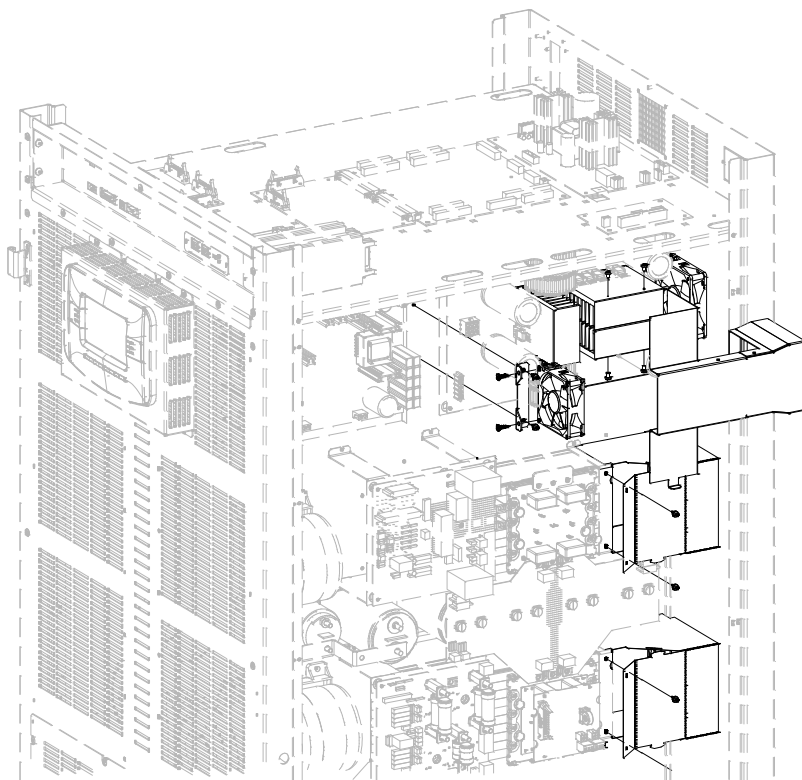
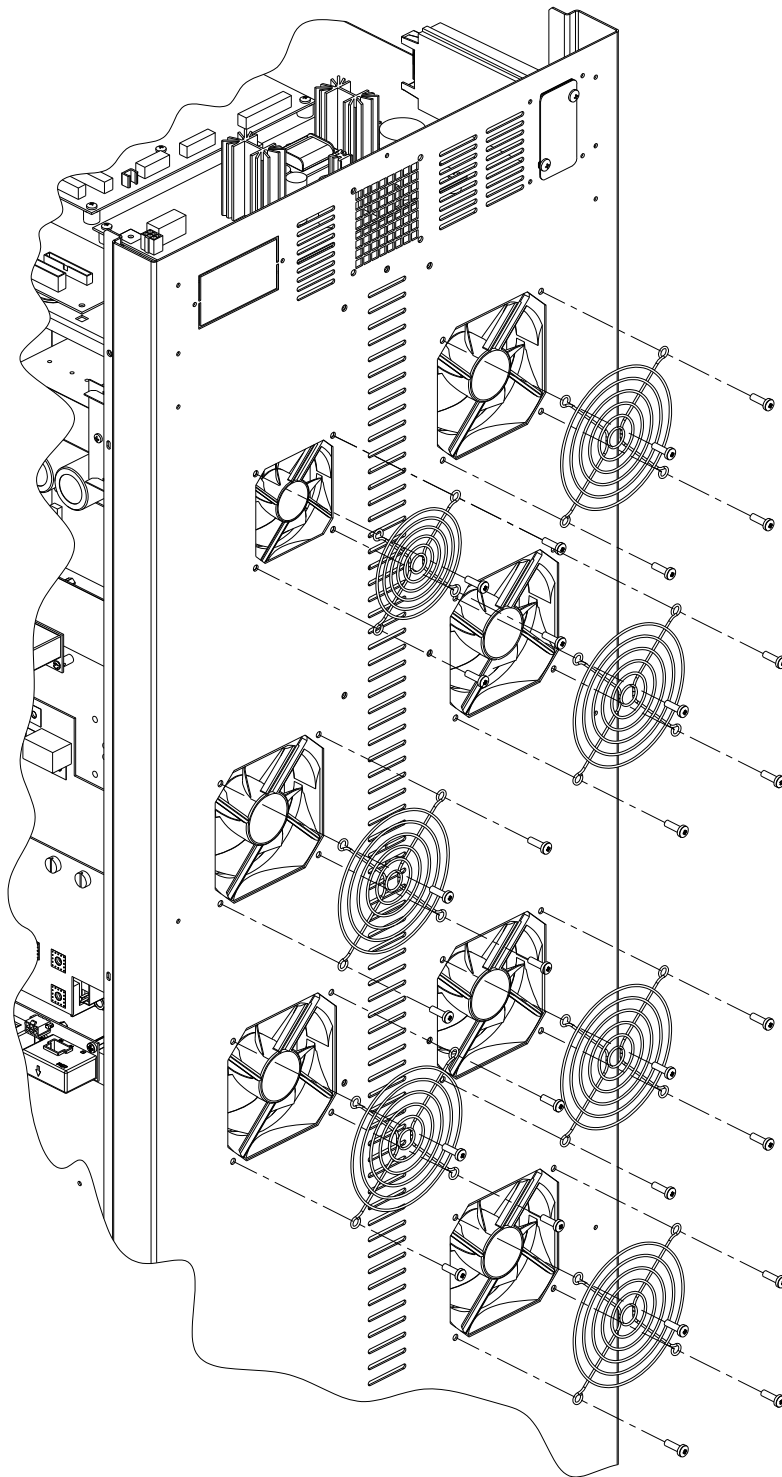

Fig. 48
Fig. 49
- 3) remove the protection grilles and free the fans, referring to Fig. 48 and Fig. 49 for the positions of fastening screws